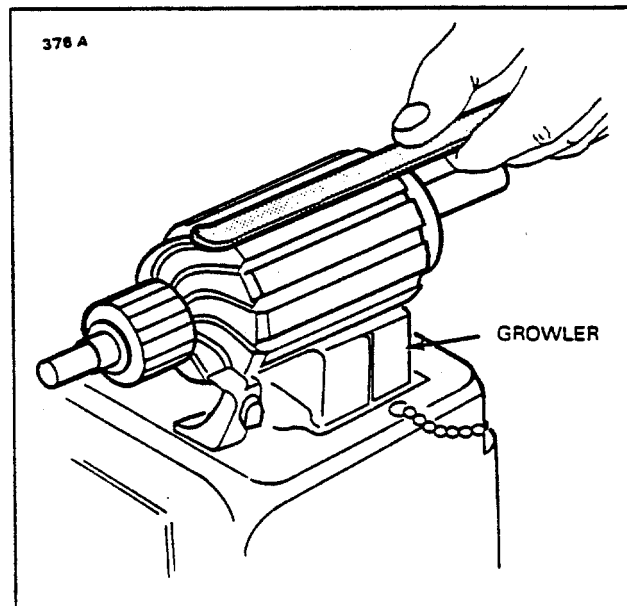

Figure 11-22. Testing Motor Armature for Shorts
c. To test for shorted armature coils, a growler is used. Refer to Figure 11-22. The armature is placed on the growler and slowly rotated by hand while a steel strip is held over the core so that it passes over each armature core slot. If a coil is shorted, the steel strip will vibrate.